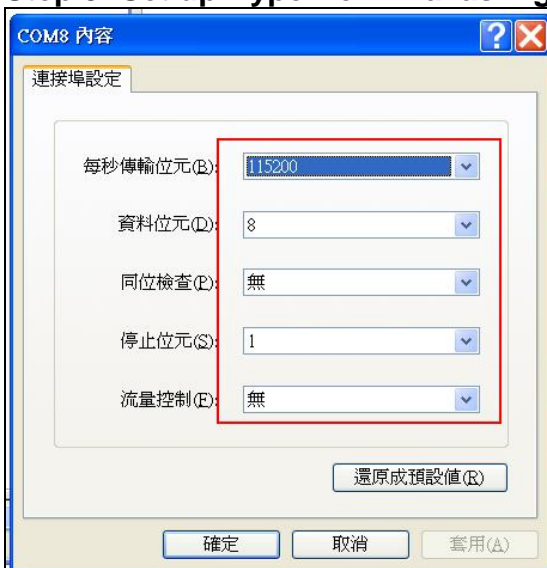

Figure 3-14 Hyper Terminal Settings
Step 3: Set up HyperTerminal as Figure 3-14.